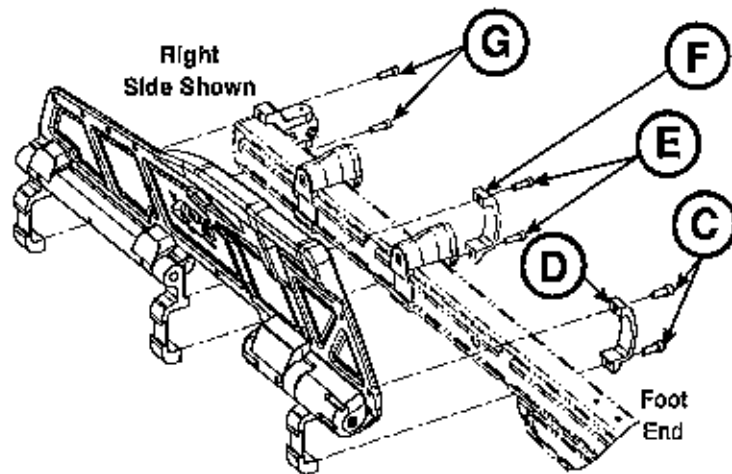

Figure 119
5. Using a 1/4" hex wrench, remove the socket head cap screws (C) that secure the siderail clamp (D) to the ratchet assembly at the foot end of the main assembly (Figure 119). During installation, torque both new screws to 22 ± 3.3 ft-lb.
6. Using a 3/16" hex wrench, remove the two socket head cap screws (E) that secure the middle siderail clamp (F) to the outer rail assembly (Figure 119).
7. Using a 3/16" hex wrench, remove the two socket head cap screws (G) that secure the top and bottom of the base/litter interface bracket to the outer rail assembly (Figure 119).